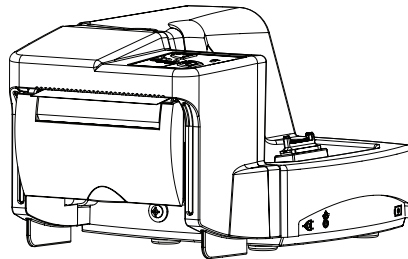

Figure 9-6C: Place Paper Spool in Holder
4. Place paper spool in holder so that the paper exits over the top of the roll and drapes over the rubber roller as shown in figure 9-6C.